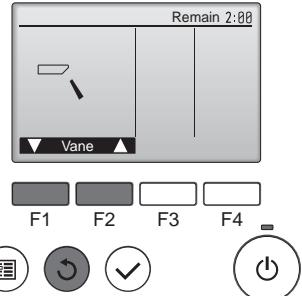

Fig. 6-6
- ① Check the auto vane with the **F1 F2** buttons. (Fig. 6-6)
- ② Press the **OK** button to return to "Test run operation".
- ③ Press the **OK** button.